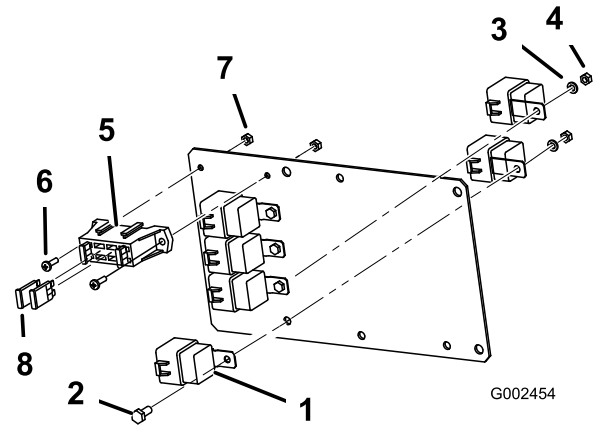

Figure 7
1. Secure 6 relays to the mount plate (Figure 7), using 4 bolts (1/4 x 5/8 inch), 4 lock washers (1/4 inch), and 4 nuts (1/4 inch). Four relays can be mounted to the front of the plate, while two relays have to be mounted to the back of the plate. The two relays mounted to the back of the plate will share fasteners with the relay mounted to the front at the same hole location.
2. Secure the fuse block end of the wiring harness to the mounting plate (Figure 7), using 2 screws (#10) and 2 nuts (#10).
4. Install two thermal breakers (30 Amp) into the open, middle slots in the fuse block on the ECU mounting plate (Figure 7).